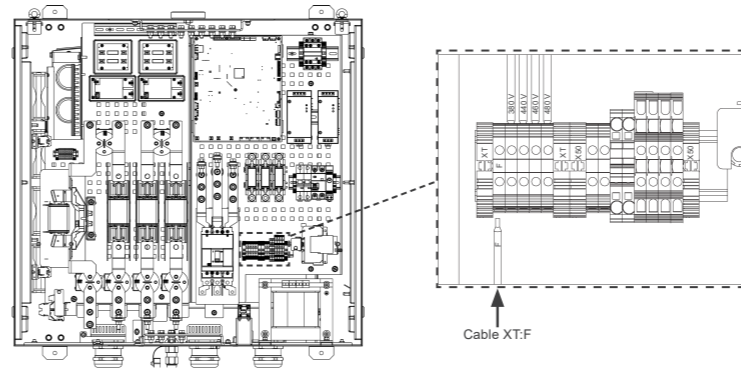

Figure 5.3: Setting the supply voltage
- Locate the XT terminal block set next to the power circuit breaker. (Figure 5.3).